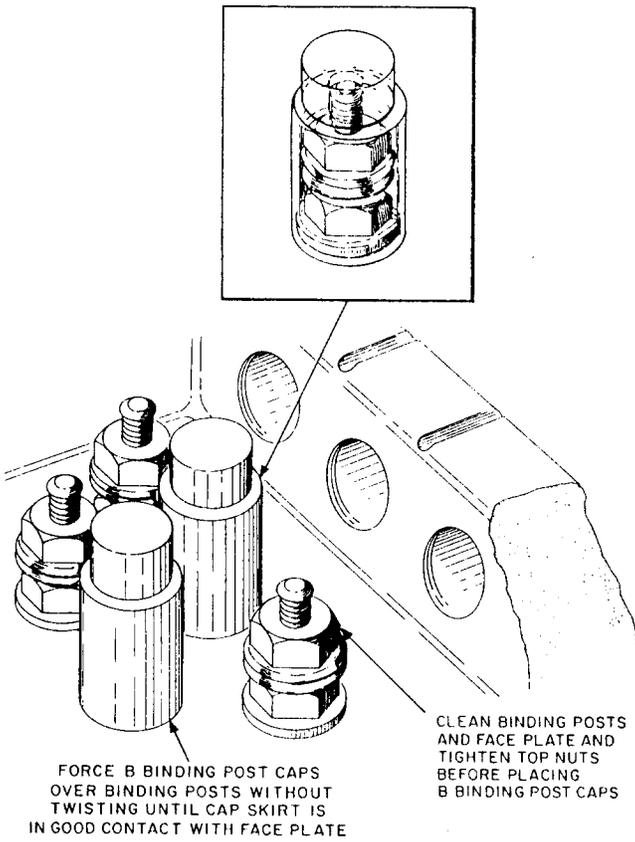

Fig. 30 - Placing B Binding Post Caps
- 6.10 When installing the B binding post caps, first turn down the nut of the binding post fingertight. Force the cap over the binding post, without twisting, until the skirt of the cap is in good contact with the faceplate. If the cap is twisted while being forced over the binding post, the skirt of the cap may fold under instead of seating squarely on the faceplate as desired. Figure 30 shows a properly placed binding post cap.